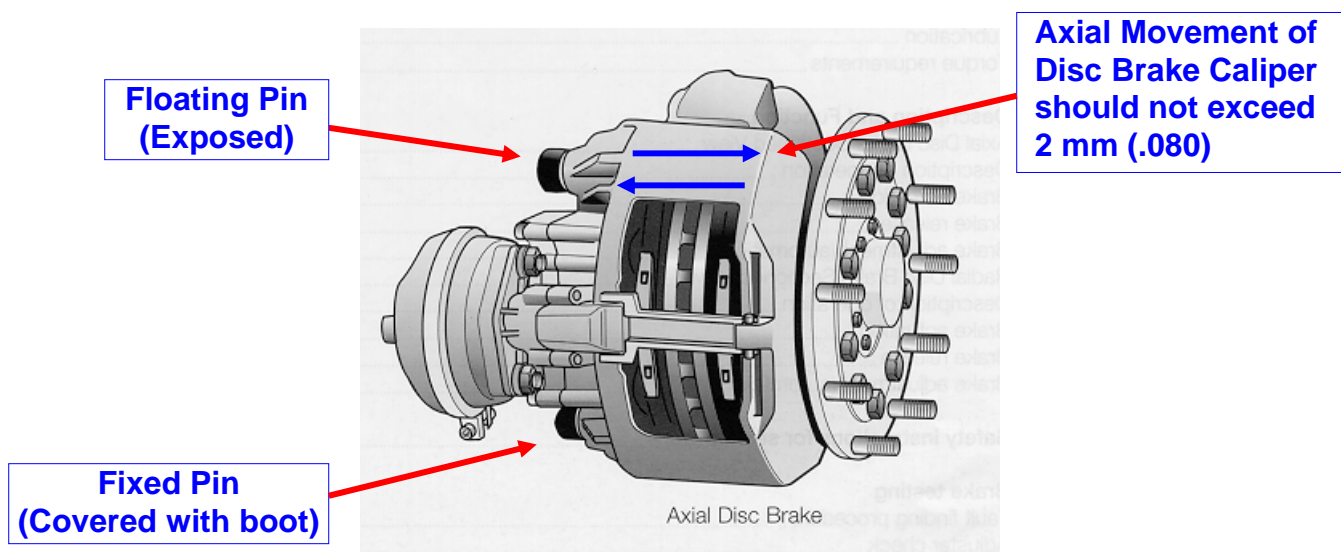
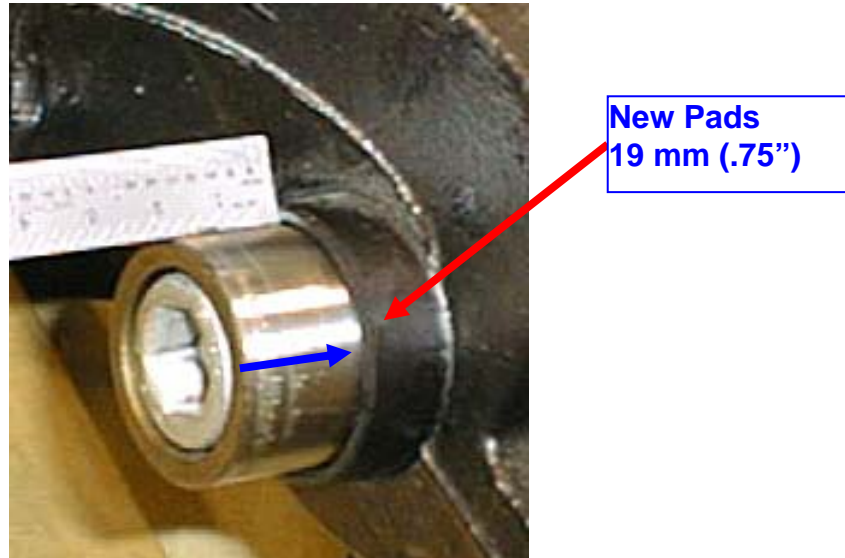

Figure 1. Axial Movement of Air Disc Brake
Figure 2. Pad Lining Indicator - New Lining Thickness
The Bendix air-disc brake caliper is designed to move freely, with minimal force, in the axial direction on the floating and fixed pins identified in Figure 1. The movement in the axial direction should not exceed 2 mm (.080"). Axial movement of the disc brake caliper assembly in excess of 2 mm is considered excessive brake adjustment and would meet the Commercial Vehicle Safety Alliance (CVSA) North American Uniform Out-of-Service (OOS) criteria relating to "Defective Brakes (absence of effective braking action)."
**Disc Brake Pad Lining Thickness Inspection:** The disc pad lining thickness can be seen, but requires removal of the tire and rim. However, an indicator of the pad lining wear condition is available by inspecting the floating pin location (see figure 1) in relationship to the rubber bushing as shown in Figures 2 and 3. When pads are in new thickness condition, the pin will be exposed 19 mm (.75"). When the pads are worn to replacement conditions, the pin will be nearly flush with or within 1 mm (.04") of the edge of the rubber bushing, and is considered to meet the CVSA OOS criteria relating to "Defective Brakes (lining thickness worn to wear indicator)."